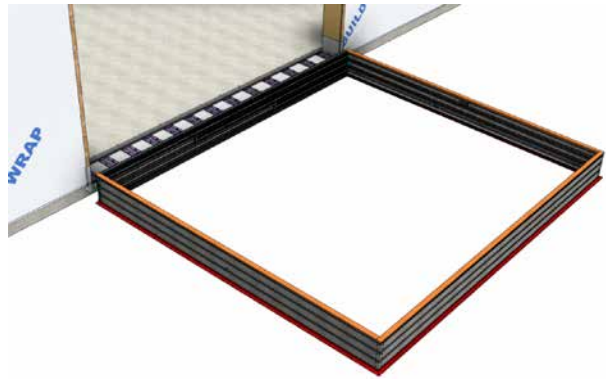

Fig 18
- Lay the assembled frame face down on the exterior of the rough opening with the sill adjacent to the rough opening (Fig 18).